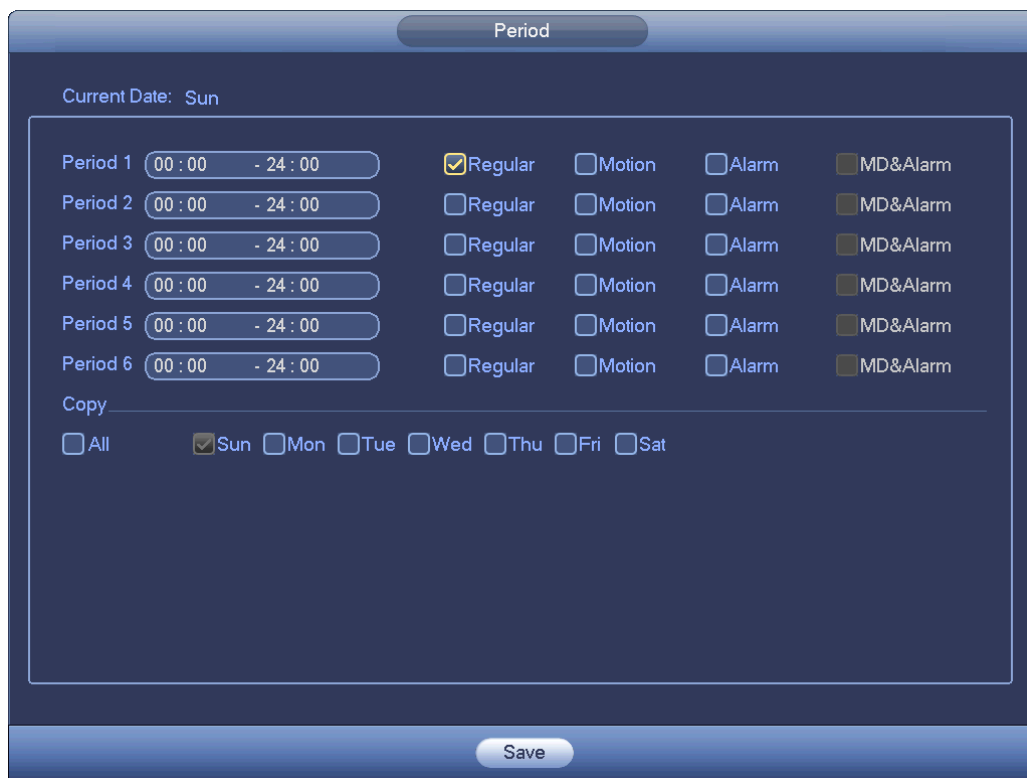

Figure 4-28
- **Period setup:** Click button  after one date or a holiday, you can see an interface shown as in Figure 4-28. There are four record types: regular, motion detection (MD), Alarm, MD & alarm.